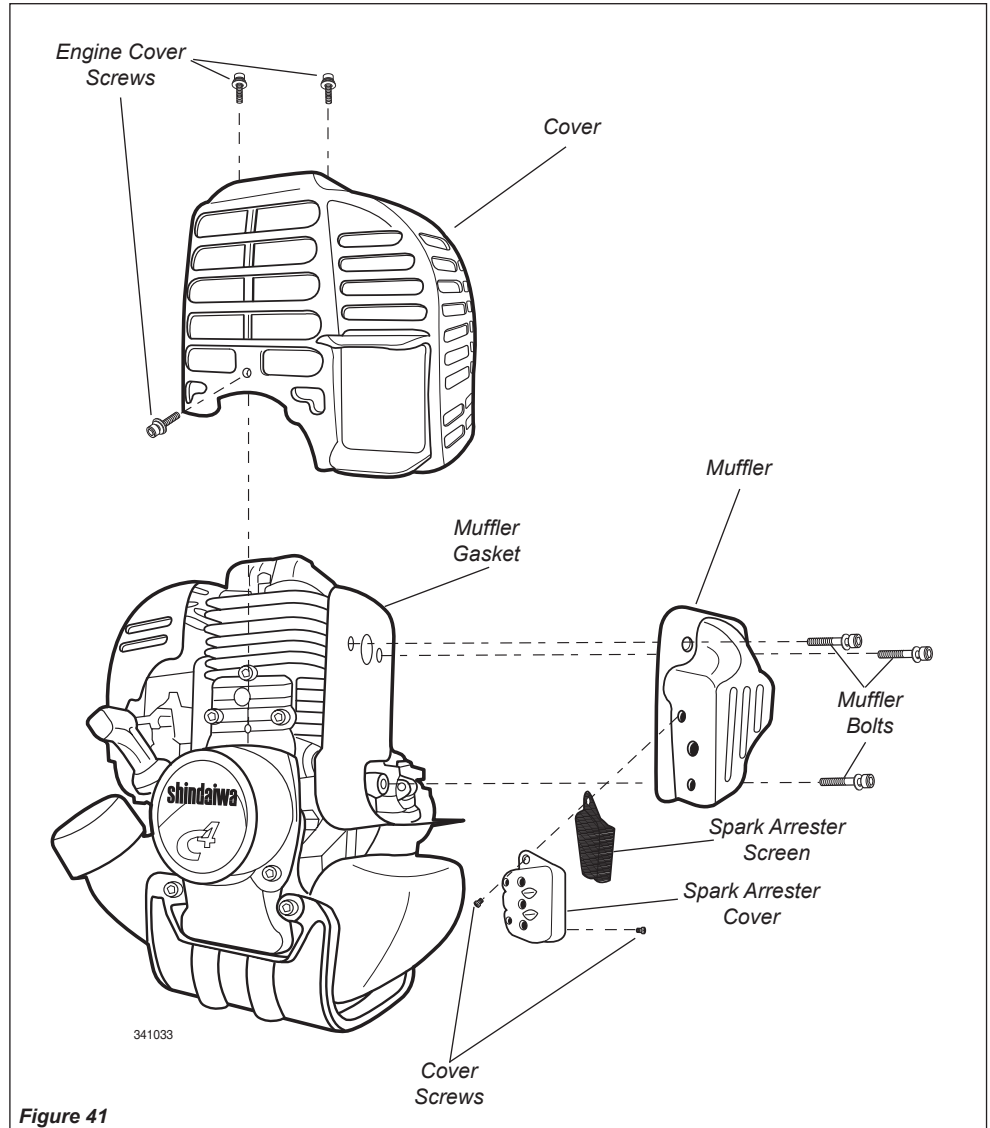

Figure 41
1. With a 3 mm hex wrench remove the 3 engine cover screws and the engine cover. See Figure 41.
2. With a 4 mm hex wrench remove the 3 muffler bolts and the muffler. See Figure 41.
3. With a small flat bladed screwdriver remove the 2 screws holding the spark arrester screen and cover to the muffler. See Figure 41.